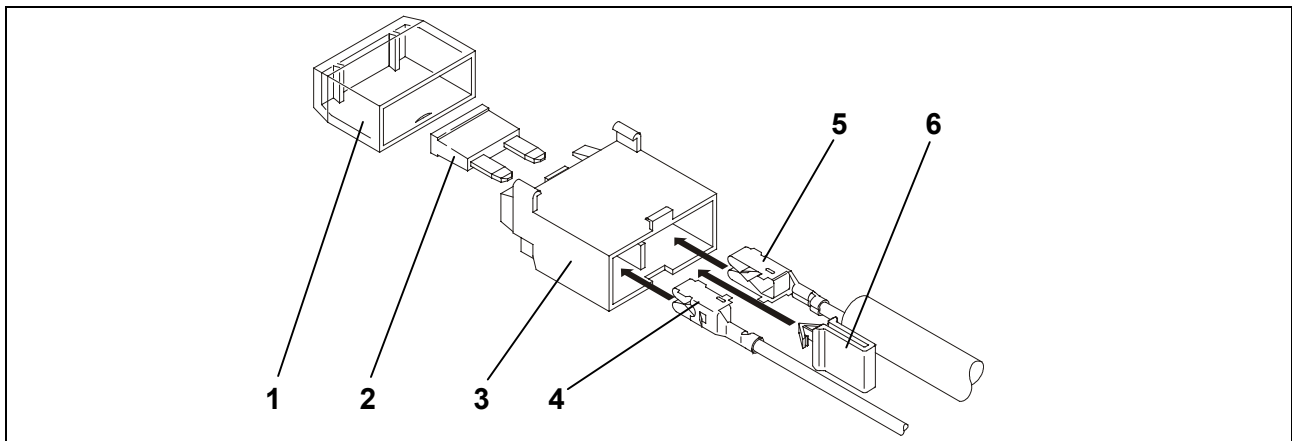

Fig. 3: Fuse holder assembly
19. Let the quick-connect receptacles of the red cable (Fig. 3/5) of the cable harness and the one of the supplied separate red cable (Fig. 3/4) lock into place in the fuse holder.
20. Install the yellow clip (Fig. 3/6).
22. Insert the fuses (Fig. 3/2) and fit the cover (Fig. 3/1).